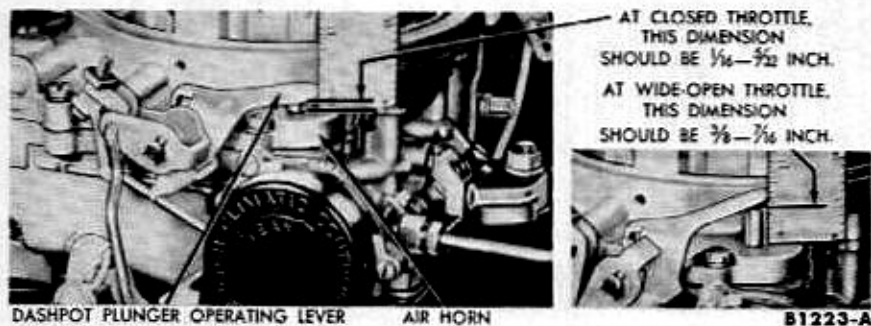

FIG. 10—Carter Anti-Stall Dashpot Adjustment
1. With the primary throttle plates closed to the normal position, there should be a $\frac{1}{16}$ – $\frac{3}{32}$ -inch clearance between the dashpot plunger operating lever and the top surface of the air horn. To adjust, bend the dashpot lever in the area between the lever arm base and the dashpot plunger (Fig. 10).
2. With the primary throttle plates wide open, there should be a clearance of $\frac{3}{8}$ – $\frac{7}{16}$ inch between the dashpot plunger operating lever and the top surface of the air horn. To adjust, bend the stop tang on the opposite side of the lever arm (Fig. 10).